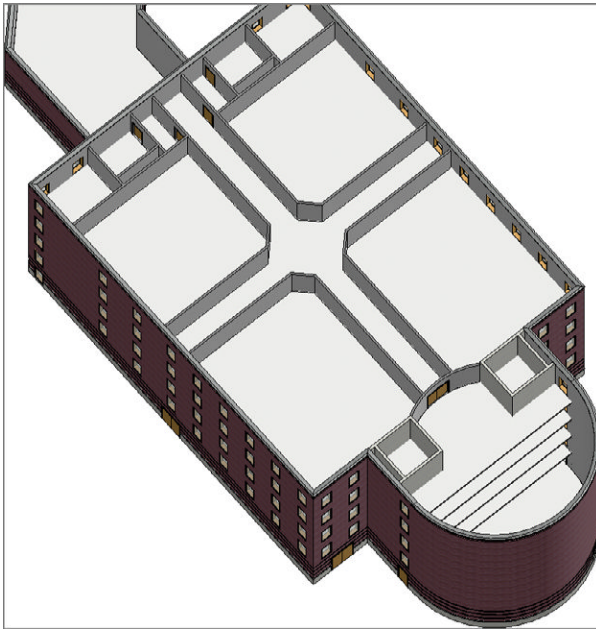

FIGURE 6.33: The completed floor placement
6. Click OK. The floors are pasted to the specified levels, as shown in Figure 6.33.